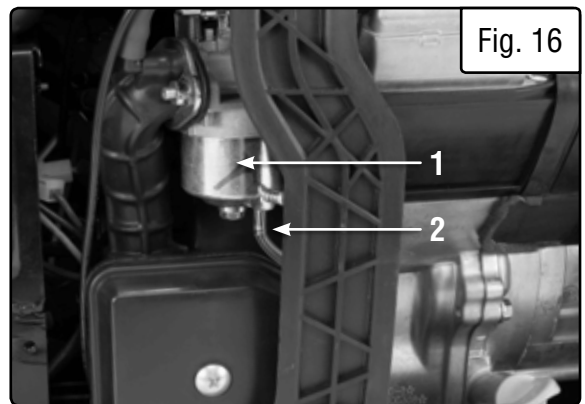

Fig. 16
3. The carburetor (Fig. 16 - 1) can be accessed from the backside of the generator between the engine and the air filter. Locate the transparent tube (Fig. 16 - 2) from the carburetor that extends down through the bottom of the generator.
2. Locate the carburetor (Fig. 16 - 1) and the transparent drain tube (Fig. 16 - 2) from the carburetor that extends down through the bottom of the generator.